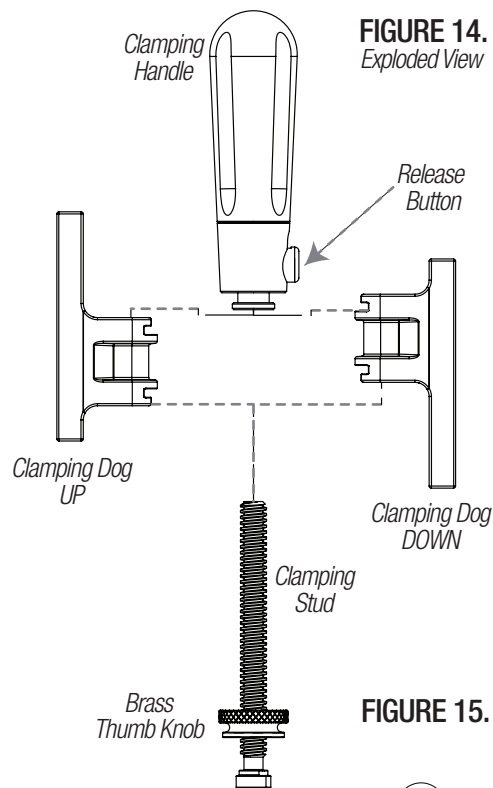

FIGURE 14.
2. To secure the Clamping Handles, tighten the Brass Thumb Knob on the Clamping Stud. **FIGURE 14.**